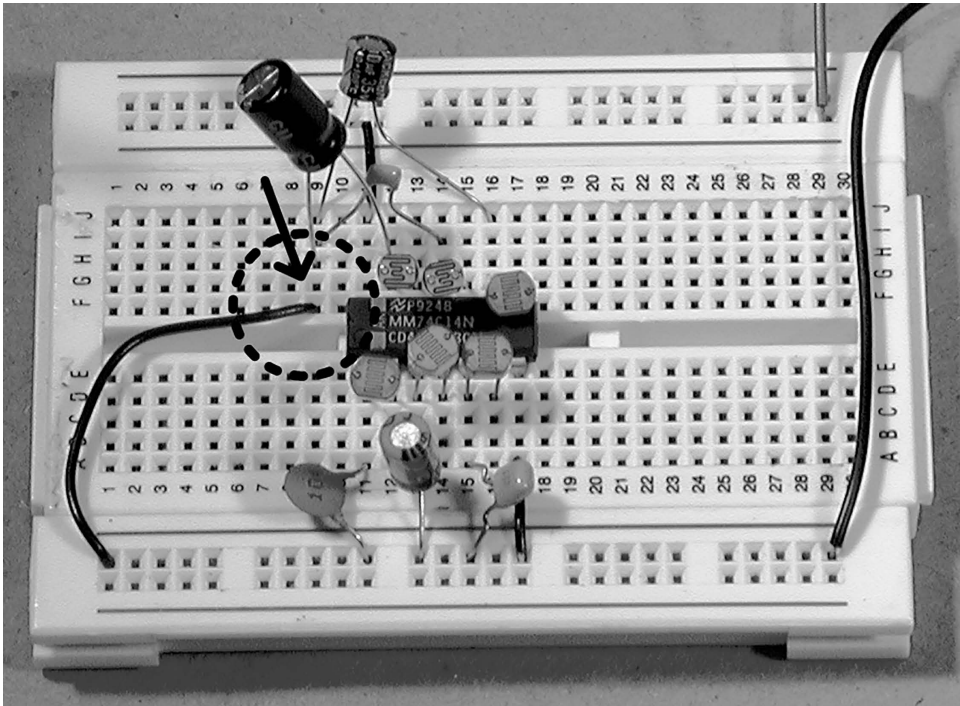

Figure 13.21 Six-voice oscillator, with capacitors connected to satellite mini ground bus.
- Alternatively, you can push the grounded legs of the capacitors into any free vertical bus on either side of the chip and jumper that vertical bus to the lower ground bus, creating a secondary, ground “satellite-bus” (Figure 13.21). Finally, if the breadboard only has one horizontal bus at the top and one at the bottom, you can use both for ground and connect the +9-volt (red) wire of the battery holder directly to pin 14, rather than via a long bus.